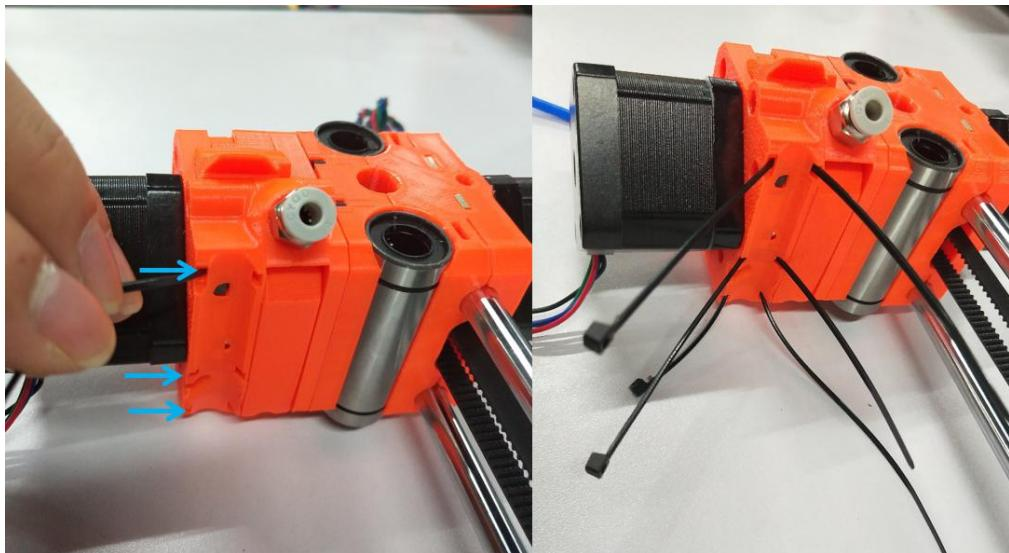

Figure 2.13.11
**Step 2-13-5:** As shown in Figure 2.13.11, pass 3pcs cable ties into the three through holes on the MINI-extruder-front.